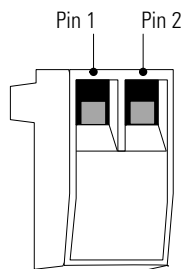

Figure 14. REPO Connector
2. Remove the REPO connector from the REPO port on the UPS rear panel (see Figure 14).
3. Connect isolated, normally-open, dry contacts (rated to handle 60 Vdc maximum, 30 Vac RMS maximum, and 20 mA maximum) across the REPO device to Pin 1 and Pin 2 (see Figure 14). Use stranded, non-shielded wiring, size 0.75 mm^2 – 0.5 mm^2 (18–20 AWG).